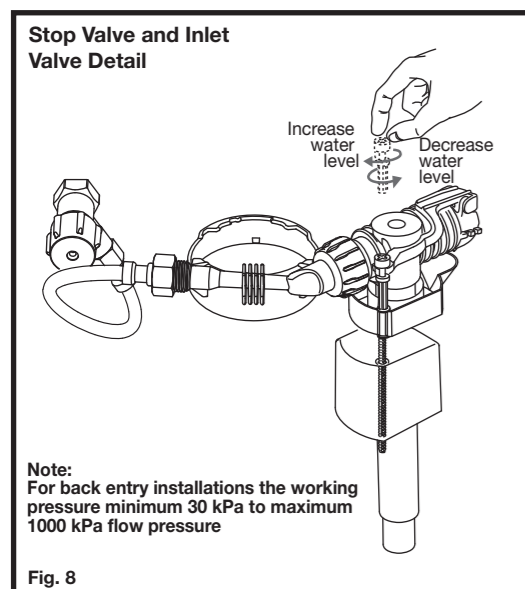

Fig. 8
- 5- Fit cistern stop valve (supplied) to the 1/2" B.S.P. nipple in the wall using approved thread seal, in the downward angled position as detailed in Fig. 8. Connect one end of flexible hose to cistern stop valve. **Note:** As specified in Australian Standard AS/NZS 3499, flexible hose assemblies shall not be submerged.
- 9- Adjust water level to the 4.5 litre water level mark inside the cistern by simply turning the float arm screw in a clockwise or anti-clockwise direction as detailed in Fig. 8.